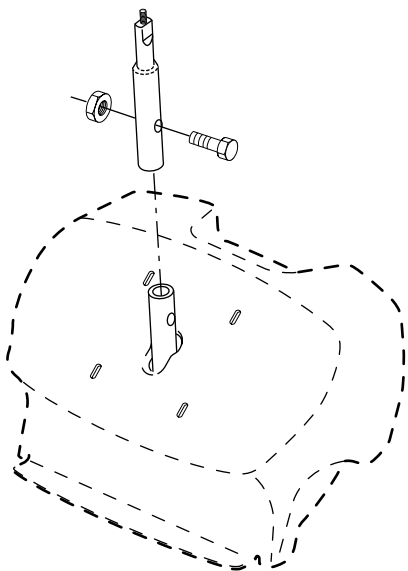

FIG. 1
2. USING CHANNEL LOCKS SQUEEZE THE AXLE BRACES, (ITEM 3), TOGETHER AS SHOWN IN FIG. 1.
1. Make sure the steering shaft extension adapter nut and bolt were tighten securely during tractor set up to 18-22 FT LBS, (SEE FIG.1).